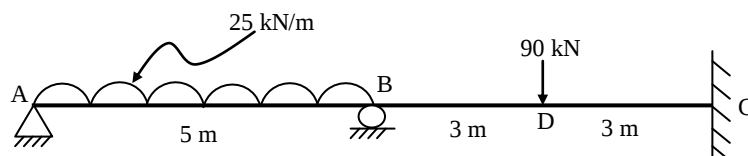

Figure 2(Q-4(b))
- (b) Analyse the beam shown in figure 2 by slope deflection method. Also draw S.F.D. and B.M.D. Also consider the relative values of moments of inertia of span BC is doubled than span AB and the modulus of elasticity E is constant. 07
- Q.5 (a) A beam 5m long, simply supported at its ends is carrying a point load of 100 kN at its centre. The moment of inertia of the beam is given  $78 \times 10^6 \text{ mm}^4$ . If E for the material of beam =  $2.1 \times 10^5 \text{ N/mm}^2$ . Calculate: (1) Deflection (2) Slope at the supports 07